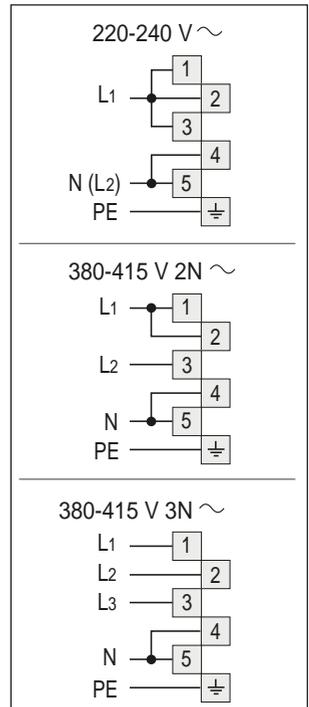
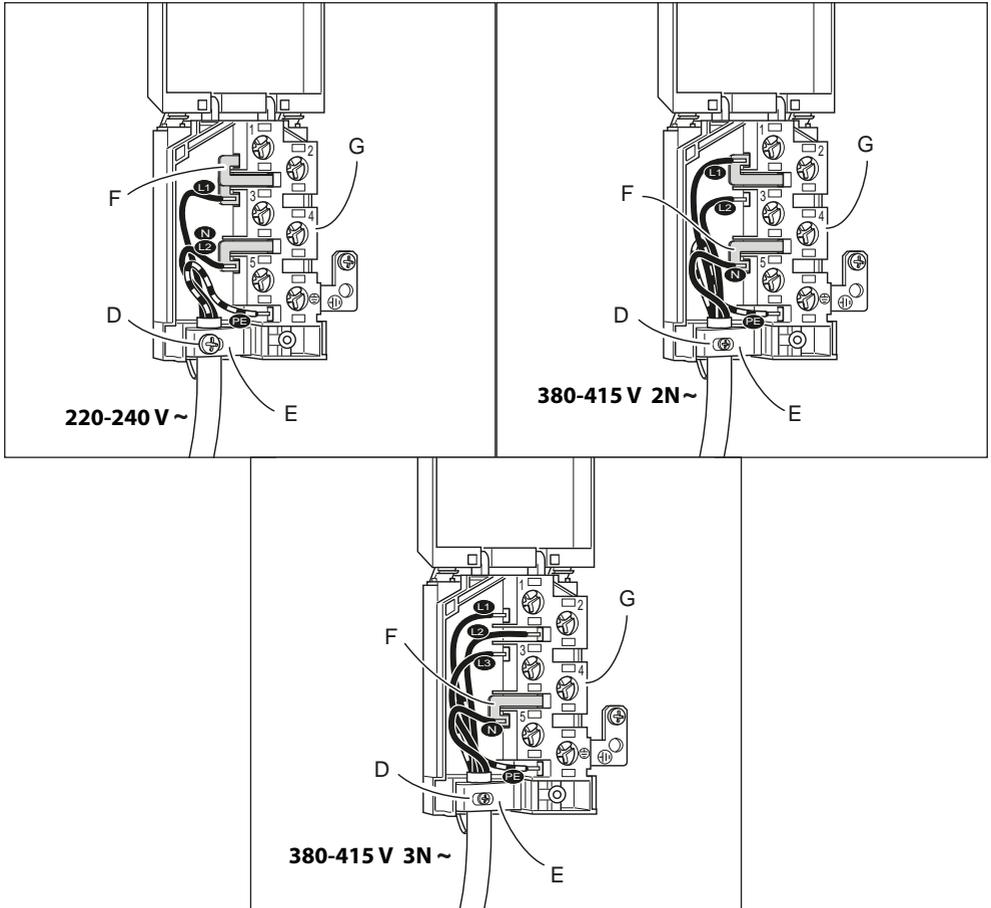

Fig. 13 Connection diagrams
Fig. 14 Connection diagrams
- 2 Unscrew the screw 'D' and open completely the cable clamp 'E' (figs. 14).
- 3 Position the U bolts 'F' onto terminal board 'G' (figs. 14) according to the diagrams in fig. 13.
- 4 Connect the phase, neutral and earth wires to terminal board 'G' according to the diagrams in figs. 13 - 14.